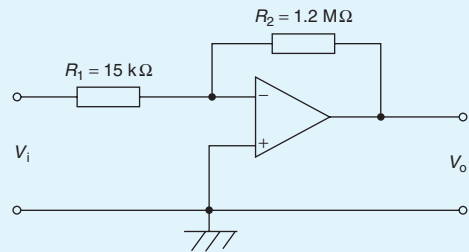

Figure 19.7
5. The op amp shown in Fig. 19.7 has an input bias current of 90 nA at 20°C. Calculate (a) the voltage gain, and (b) the output offset voltage due to the input bias current. [(a) -80 (b) 1.33 mV]